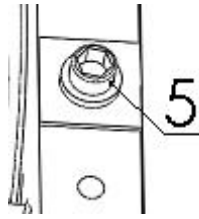

Figure 1
1. Loosen the screws on the cover (5) Fig. 1 fixing block with a wrench and remove the cover.